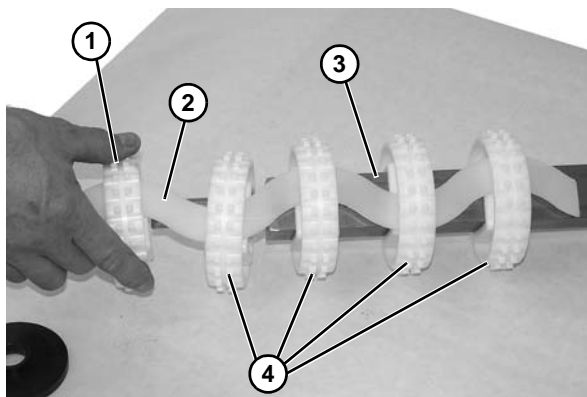
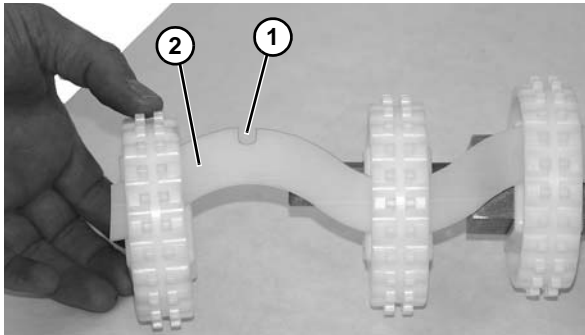

Figure 71
Figure 72
13. Slide entire sprocket assembly slightly outward, and remove the first sprocket (**Figure 71, item 1**) off the drive spindle (**Figure 71, item 2**) and alignment bar (**Figure 71, item 3**). Inspect and replace if worn.
14. Remove remaining sprockets (**Figure 71, item 4**) off the alignment bar as you slide entire assembly off the drive spindle.
16. Install second sprocket and subsequent sprockets (**Figure 71, item 4**) one by one, while sliding entire assembly onto alignment bar (**Figure 71, item 2**) and spindle (**Figure 71, item 3**), making certain each sprocket is locked into retaining tab cut out (**Figure 72, item 1**) on alignment bar (**Figure 72, item 2**).